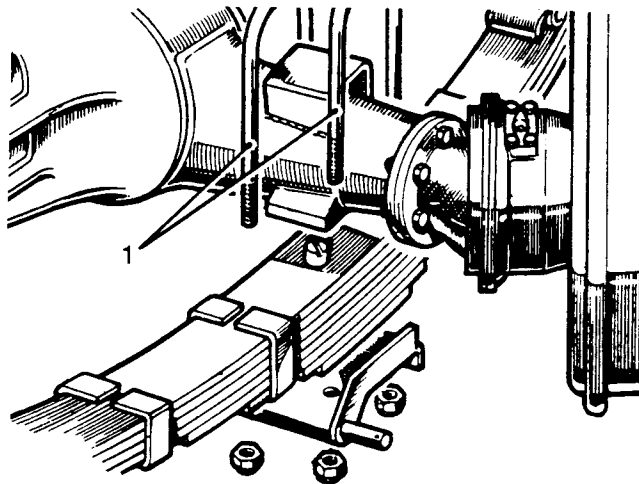

Fig J1.21
- (9) Refer to Fig J1.21. Remove the four U-bolts (1) from the axle.